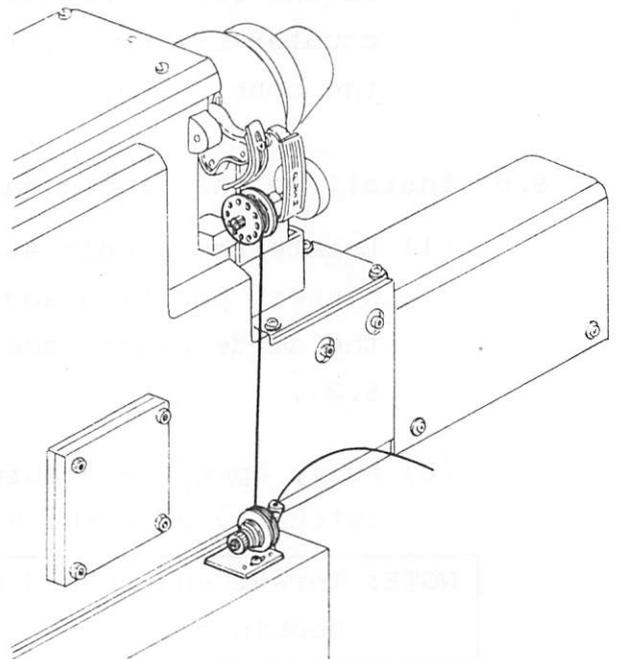

Fig. 9.7
- (1) Wind the end of the thread, led from the cotton stand via the tension thread guide, around the bobbin several turns as shown in Fig. 9.7.
- (2) Press the work holder lift switch to lower the work holder.
- (3) Set the STOP/MOVE switch on the switch panel to STOP position and press the START switch (see 6.8).